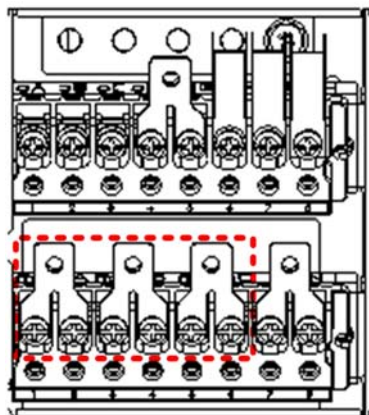

Figure 8-10 3-in 1-out, common input configuration (1)
a) Remove the three copper shorting bars from the rectifier input terminals mA, mB and mC, see Figure 8-10.